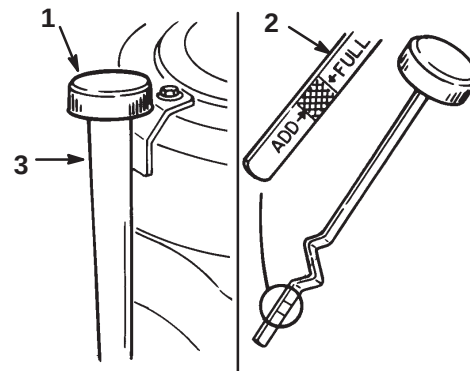

Figure 31
3. Clean around the oil dipstick (Fig. 31) so dirt cannot fall into the filler hole and damage the engine.
4. Unscrew the oil dipstick and wipe the metal end clean (Fig. 31).
5. Screw the oil dipstick fully onto the filler tube (Fig. 31). Unscrew the dipstick again and look at the metal end. If oil level is low, slowly pour only enough oil into the filler tube to raise the level to the "FULL" mark.
6. Slowly pour approximately 80% of the specified amount of oil into the filler tube (Fig. 31). Check the oil level; refer to Checking Oil Level, page 34, steps 4–5.